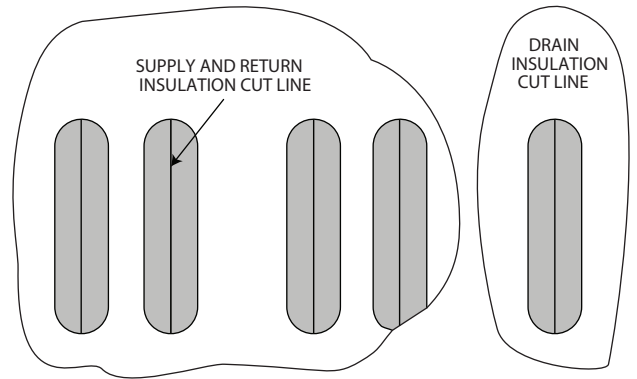

Fig. 19 — 42SU Unit Knockout Insulation Removal
- Use a sharp retractable knife (see Fig. 19) and vertically cut the insulation down the center of the riser and drain knockouts the full length of the knockout.